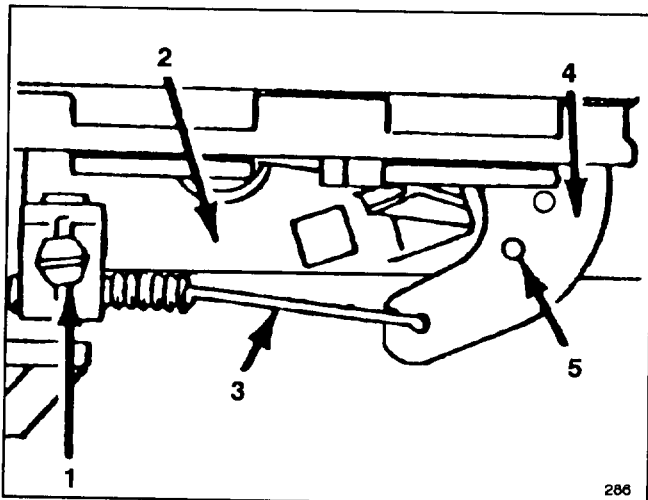

Figure 18
3. Loosen cable clamp screw until throttle cable slides (Fig. 18).
4. Move throttle cable left or right until holes in throttle lever and throttle bracket align (Fig. 18).